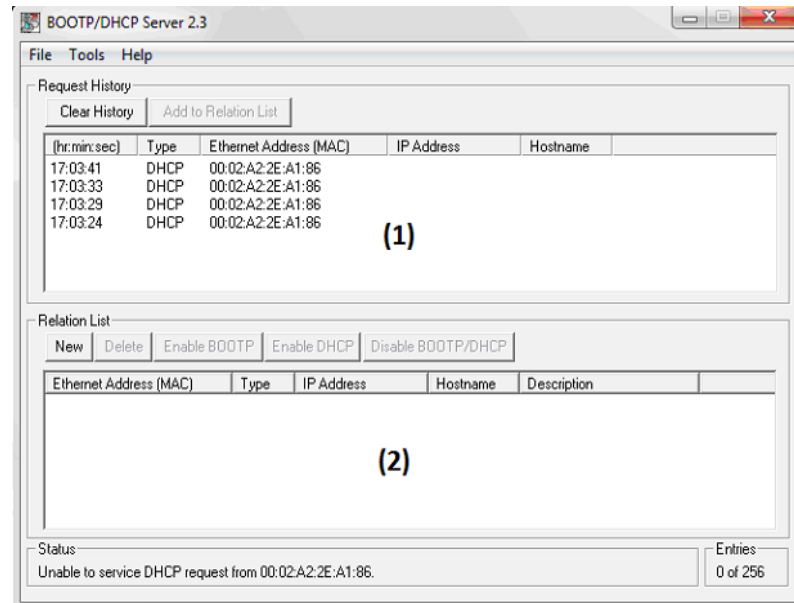

Fig. 6.29: Selection of the module
=> Select your desired module from the list (1) "Request History" (Fig. 6.29) by double click.
After closing the New Entry window, the DHCP server window appears again (Fig. 6.29). In list (1) (Request History) and list (2) (Relation List) the module with the assigned IP address appears. LED 1 (back of module) is on.